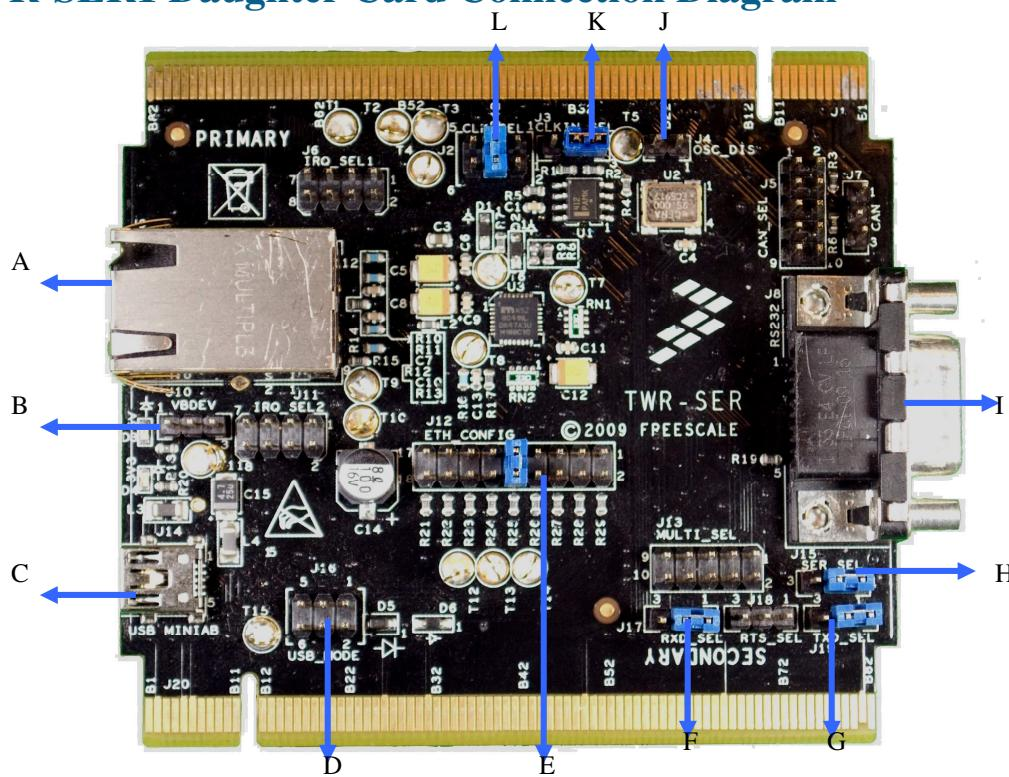

Figure 2 - TWR-SER
- No Jumper for J4 (See J of Figure 2 - TWR-SER)
- Shunt 2-3 of J3 to provide CPU reference clock (See K of Figure 2 - TWR-SER)
- Shunt 3-4 of J2 for 50MHz reference clock for Micrel PHY, No Jumper for 1-2 and 5-6. (See L of Figure 2 - TWR-SER)
- Shunt only 9-10 of J12 for setting up the Micrel PHY as RMII mode (See E of Figure 2 - TWR-SER)
- Shunt 1-2 of J15 (See H of Figure 2 - TWR-SER)
- Shunt 1-2 of J19 (See G of Figure 2 - TWR-SER)
- Shunt 1-2 of J17 (See F of Figure 2 - TWR-SER)